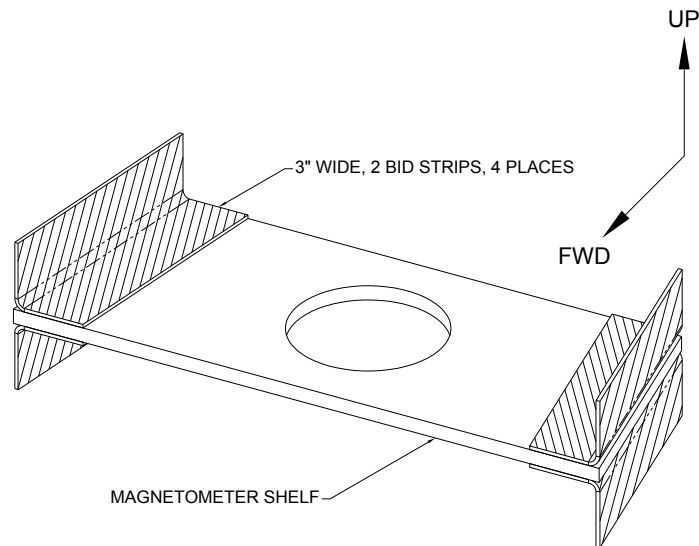

Figure C-23 Magnetometer Shelf With Lay up
5. Secure the shelf to the fuselage with one layer of 3.0 in. wide, 2 bid strips at each corner above and below the shelf. The lay up is shown in Figure C-23.